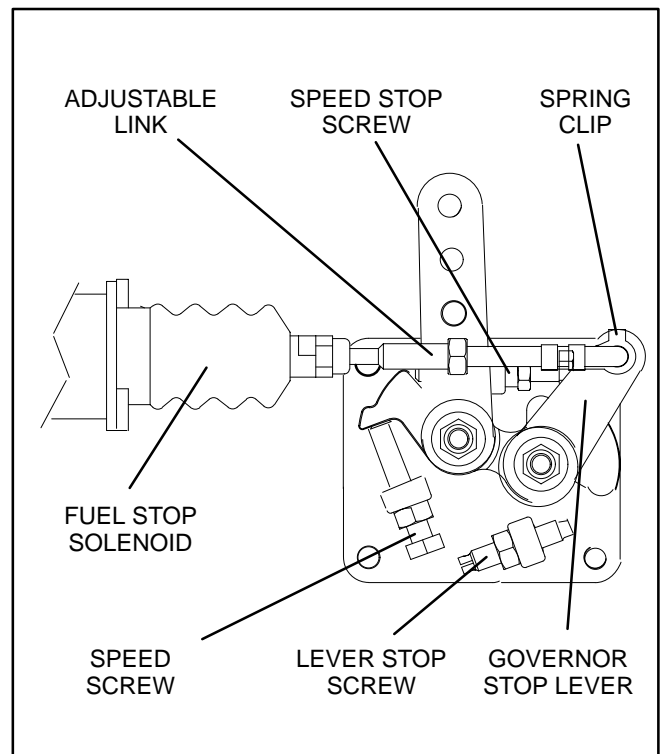

FIGURE 24. FUEL STOP AND FREQUENCY ADJUSTMENTS (MDKAL SPEC A)
4. Back out the speed stop screw (Figure 24) and turn the speed screw to obtain the required *no-load frequency* of **52.5 Hz** or **63 Hz**. Snug the speed stop screw and locknuts. There is no droop adjustment.